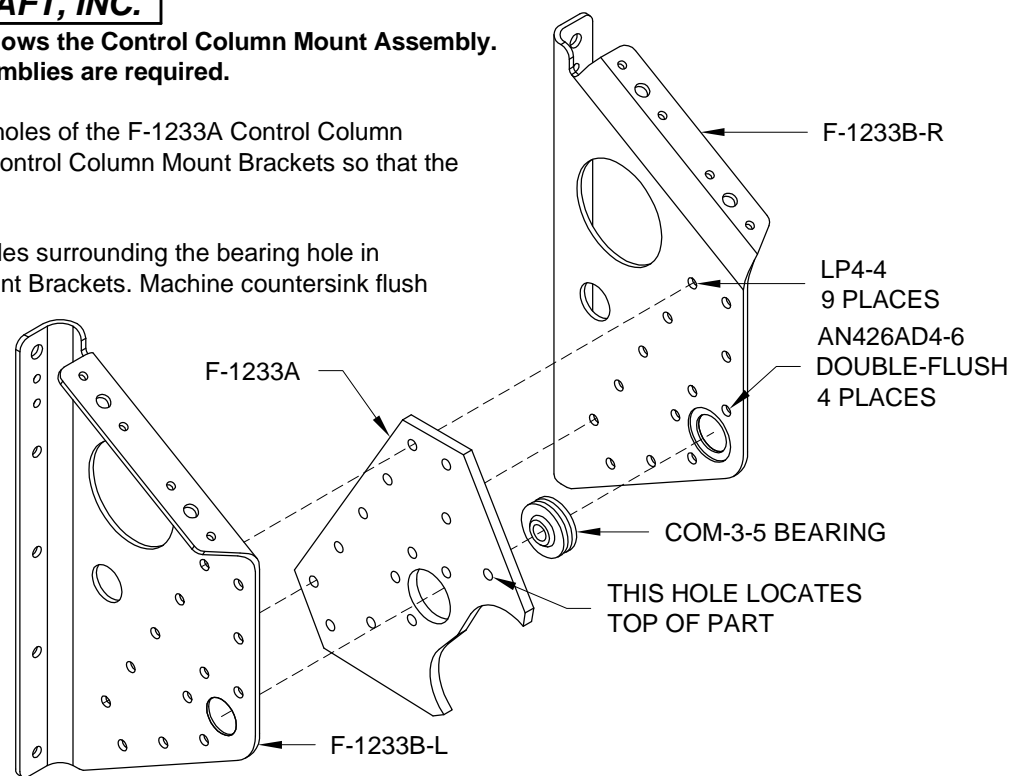

FIGURE 1: CONTROL COLUMN MOUNT ASSEMBLY
Step 3: As shown in Figure 1, sandwich the bearing and the F-1233A Control Column Mount Spacer between the F-1233B-L & -R Control Column Mount Brackets, then rivet the parts together using the rivets called-out. The hole indicated in the control column mount spacer locates the top of the part.